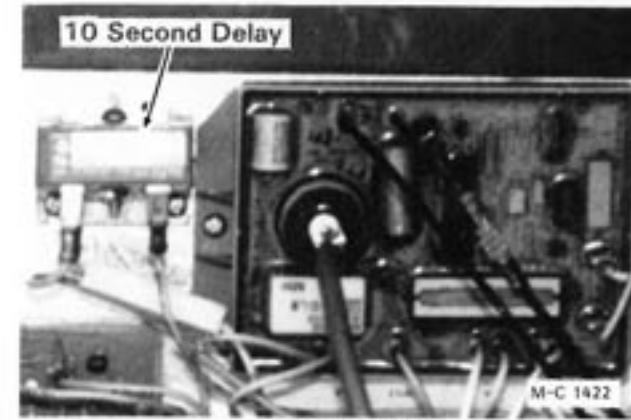

Figure 37
3. Look for loose, burned or broken wires, poor or corroded connections. Check the 10 second delay, see Figure 37, and the ignition switch with a voltage tester.